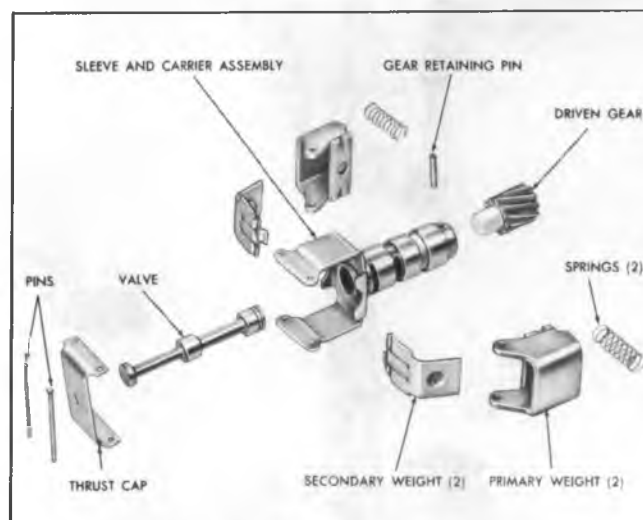

Fig. 48T--Governor--Exploded
- Cut off one end of each governor weight pin and remove pins, governor thrust cap, governor weights, and springs. Governor weights are interchangeable from side to side and need not be identified. (Fig. 48T).